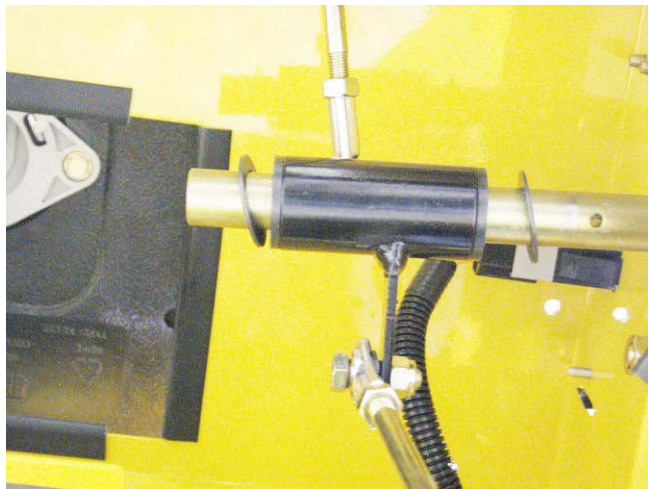

Figure 11.10
11.10. Withdraw the shaft, catching the washers. Allow the bellcranks and steering link rods to hang down from the hydros. See Figure 11.10.